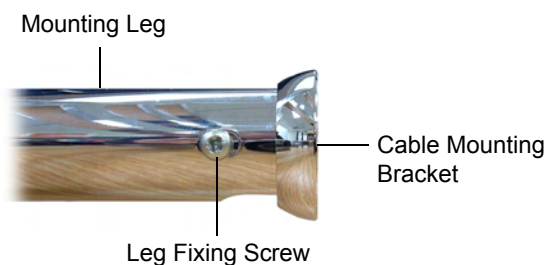

Figure 5: Cable Mounting Bracket Adjustment
12. It may be necessary to adjust the Cable Mounting Bracket so that it fits flush against the wall. This can be done by loosening the side Leg Fixing Screw and moving the Bracket forwards or backwards (see Figure 5 below).